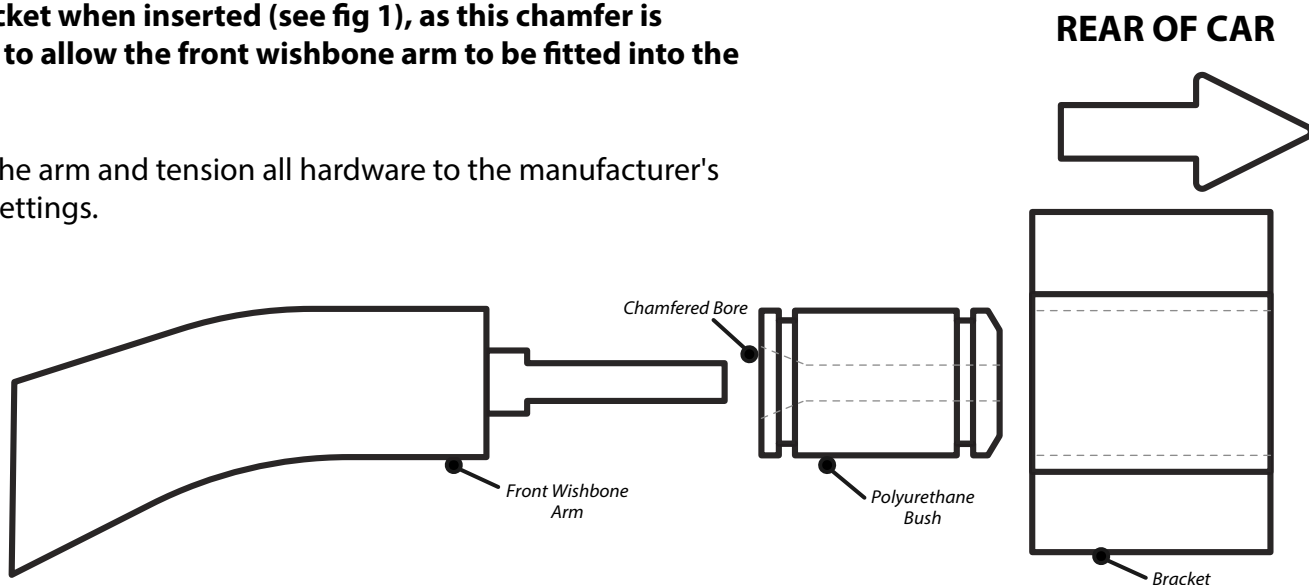

Figure 1
3. Lubricate and insert the new bush into the bore, with the chamfered edge going into the bore first, as shown in figure 1. Ensure that the bush sits flush within the bore.
Note: Ensure the chamfered end of the bore is facing out of the bracket when inserted (see fig 1), as this chamfer is needed to allow the front wishbone arm to be fitted into the bush.